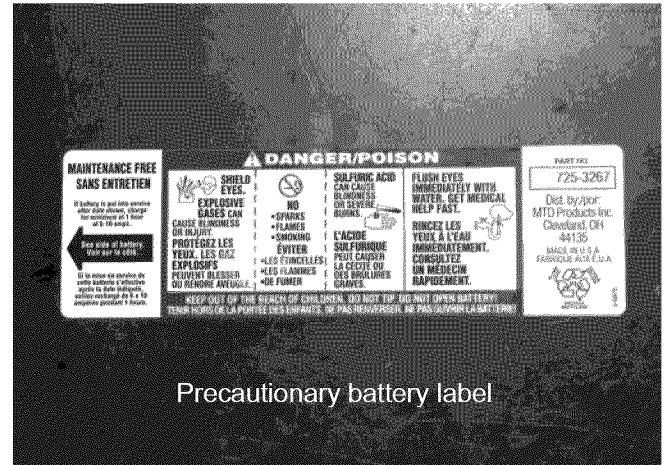

Figure 7.39
1. Precautions: See Figure 7.39.